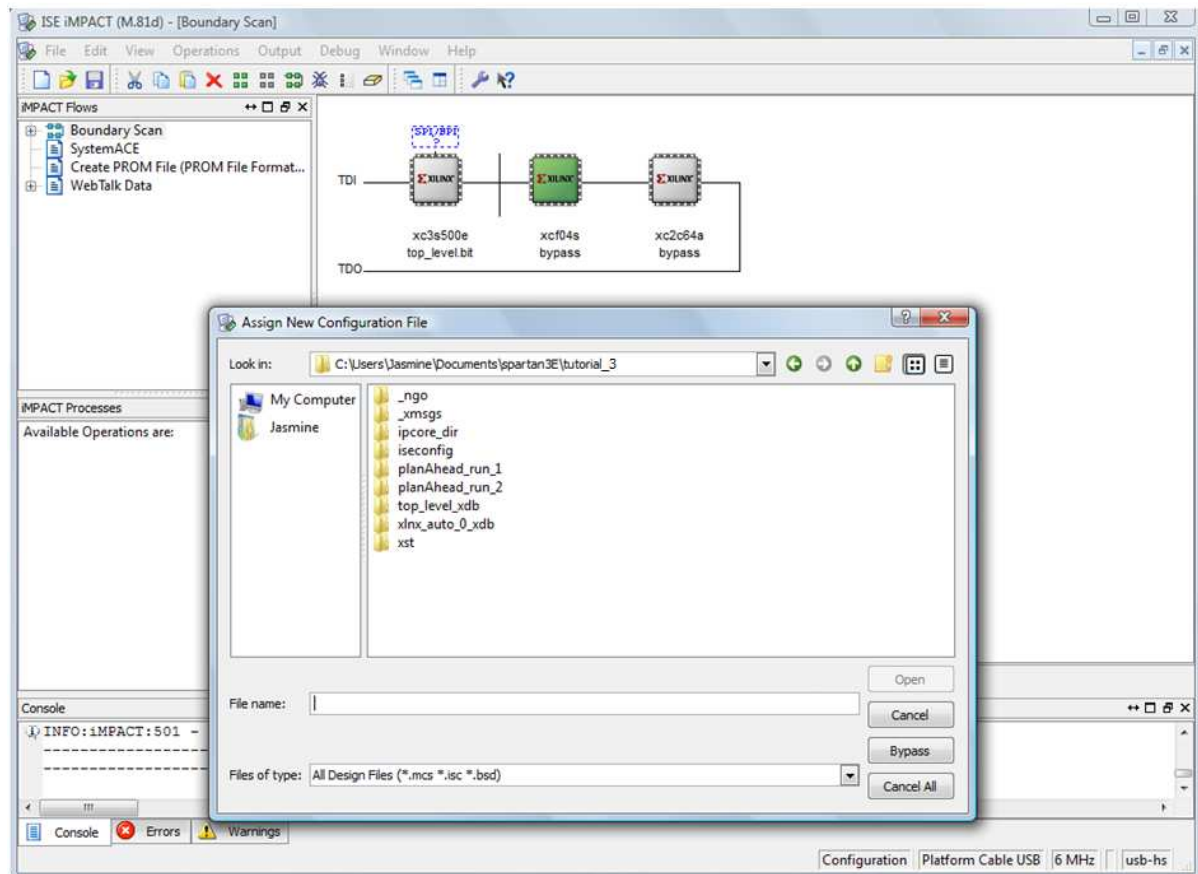

Figure 6.55: iMPACT window, bypassing the xcf04s.
10. The **Assign New Configuration File** window will appear again (Figure 6.55). In this case click **Bypass**. This ensures that the xcf04s is bypassed.